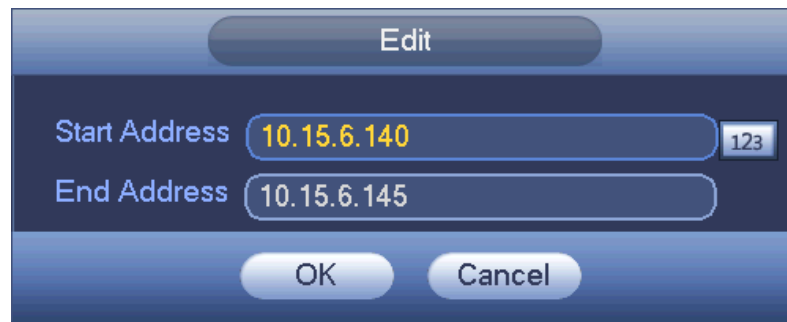

Figure 4-102
- **Edit:** Click it to edit start address and end address. See Figure 4-102. System can check the IP address validity after the edit operation and implement IPv6 optimization.